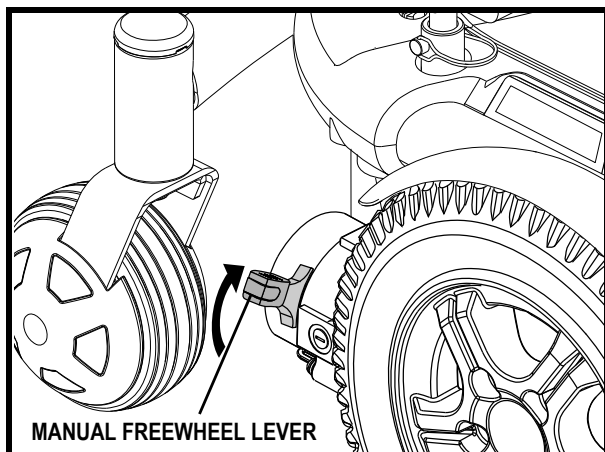

Figure 8A. Drive Mode (Drive Engaged)
Your power chair has a manual freewheel lever on each motor. Manual freewheel levers enable you to disengage the drive motors and maneuver the chair manually. There are two different types of manual freewheel levers that your power chair may be equipped with based on the drive motor configuration. See figures 8A, 8B, 9A, and 9B.
2. Pull up both manual freewheel levers to engage the motors (drive mode). See figures 8A and 9A.